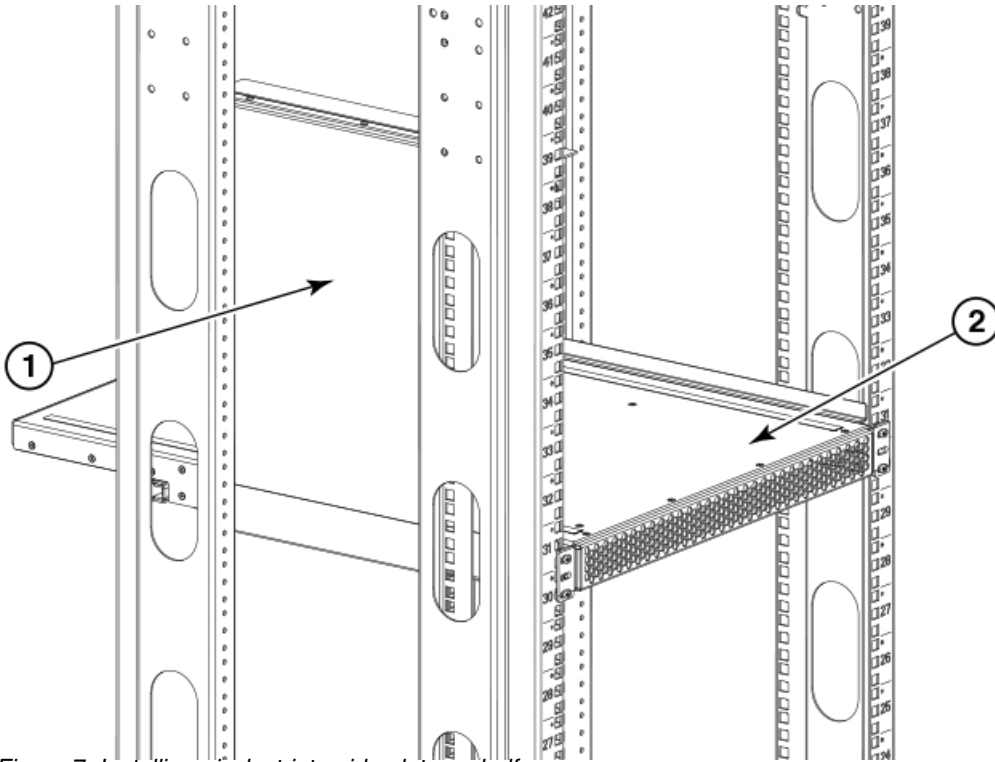
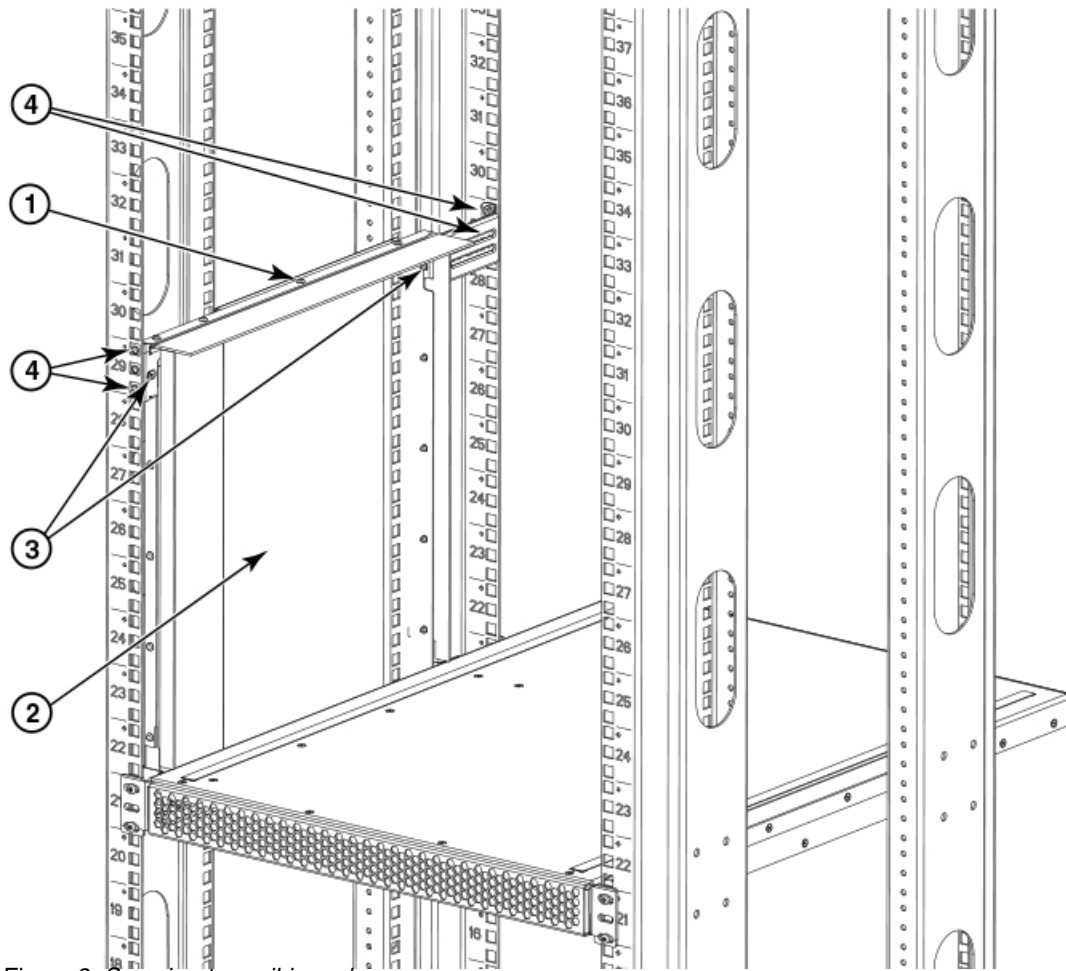

Figure 7. Installing air duct into side slot on shelf
Figure 8. Securing top rail in rack
2. Install clip nuts (8 in Figure 7) or retainer nuts (9 in Figure 7) in rack rail locations shown in the following figure. These nuts will secure the 10-32 screws that mount the rack kit's shelf and the device to the rack. For rails with round holes, use clip nuts. For rails with square holes, use retainer nuts. Note that the following figure shows relative positions for these nuts in the rack rails to mount the shelf and device. You may mount the shelf and device in 9U of rack space higher or lower in the rack than shown.
3. Install the shelf saddle (refer to Figure 7) to the nonport side of the rack. Install the saddle in the same vertical location as where the shelf installs on the port side of the rack. In using the previous figure as example, if the shelf is installed in location 23 on the port side, install the saddle in location 23 on the nonport side. Ensure that the words "THIS SIDE UP" on the saddle face towards the port side of the rack (see the following figure).
Secure the saddle to the rack using four 10-32 screws with washers (refer to Figure 7), two screws on each side of the saddle. Tighten the screws according to specifications under "Torque requirements" on page 23.
**Note:** For rails with round holes, use the clip nuts (refer to Figure 7) on the rails for securing 10-32 screws. For rails with square holes, use the retainer nuts (see Figure 7). Also refer to Figure 8.
4. Place the shelf (refer to the following figure) on the saddle then secure it to the rack rails using four 10-32 screws with washers (refer to Figure 7). Tighten the screws according to specifications under "Torque requirements" on page 23.
- a. Determine the size of the top rail inner bracket that you will need to install on the top rail so that the top rail will fit on the inside of the rack rails. Remove the appropriate bracket from the accessory kit. Note that the accessory kit contains three sizes, depending the depth of your equipment rack (refer to Figure 7).
- b. Secure the top rail inner bracket to the top rail assembly with two 6-32 screws (see Figure 7). Tighten the screws according to specifications under "Torque requirements" on page 23.
**For rails with round holes**, use two 10-32 screws with washers (refer to Figure 7) on each end of the top rail assembly. Tighten the screws according to specifications under "Torque requirements" on page 23.
**For rails with square holes**, use the two standard 10-32 screws with blue Loctite on the threads and alignment washers (refer to Figure 7) on each end of the top rail assembly. Tighten the screws according to specifications under "Torque requirements" on page 23.
**Note:** For rails with round holes, use the clip nuts on the front rails for securing 10-32 screws. For rails with square holes, use the retainer nuts (refer to Figure 7). Also refer to Figure 8.